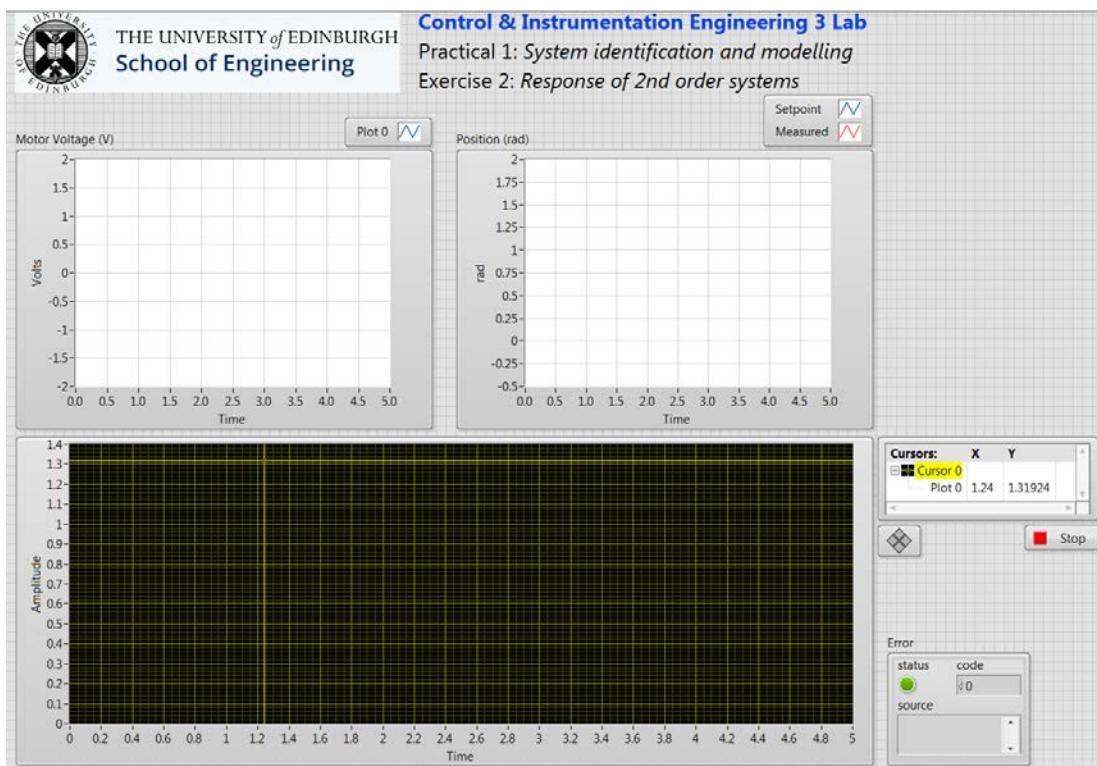

Figure 5.1: The VI front panel for the study of the response of a 2nd order system
The front panel of a *Virtual Instrument* (VI) shown in Figure 5.1 below has been developed in LabVIEW and can be used to apply a step input to the motor and then read the motor position using the onboard incremental encoder.
- Double click VI '**P1E2.vi**' under '**NI-myRIO**' to open it. You should now see the front panel shown in Figure 5.1.
Using the Virtual Instrument shown in Figure 5.1, you can measure the key step response parameters of the 2nd order system. We are particularly interested in the percentage overshoot PO and peak time t_p , as they allow us to calculate the undamped natural frequency ω_n damping ratio ζ .